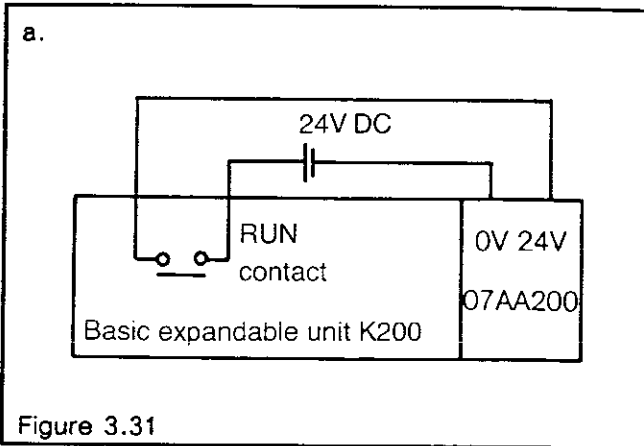

Figure 3.31
- The supply voltage for the analog output units will be connected after system initialization, over the RUN contacts of the basic expandable unit, to the 07 AA 200 analog output unit (see Figures 3.31 – 3.33).